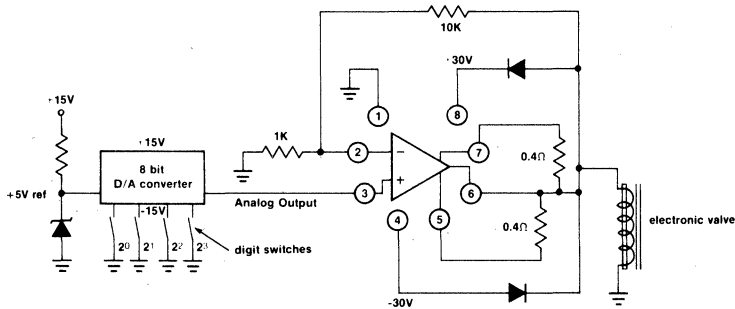

Figure 16: Digitally Controlled Electronic Valve
V. The circuit presented in Fig. 16 is also an excellent way to get a precise power supply voltage; in fact, it is possible to